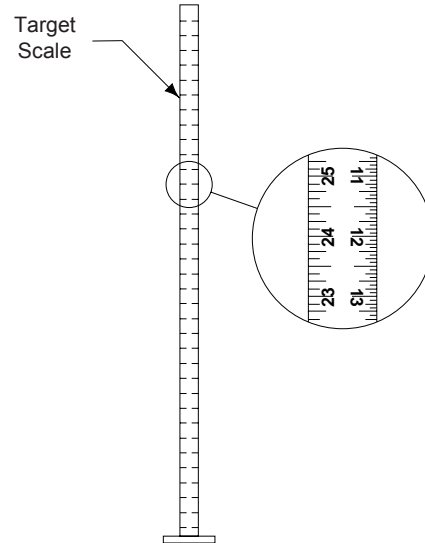

Fig. 30
- D. Beginning with "A" position, Fig. 3, sight the Level to the target and mark the number or the graduation on the inch scale of the target that aligns to the cross hairs of the Level, Fig. 30.